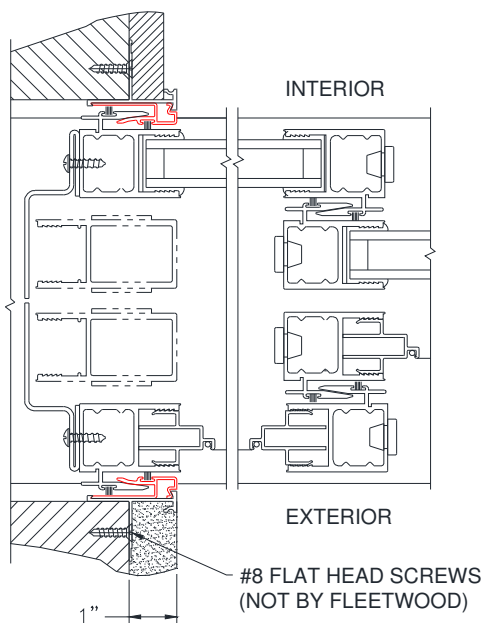

Figure 27:
3. Attach pocket interlocker(s) with #8 flat head screws, not by Fleetwood. Install screws 6" from top and bottom with additional screws on 18" centers (Figure 27).